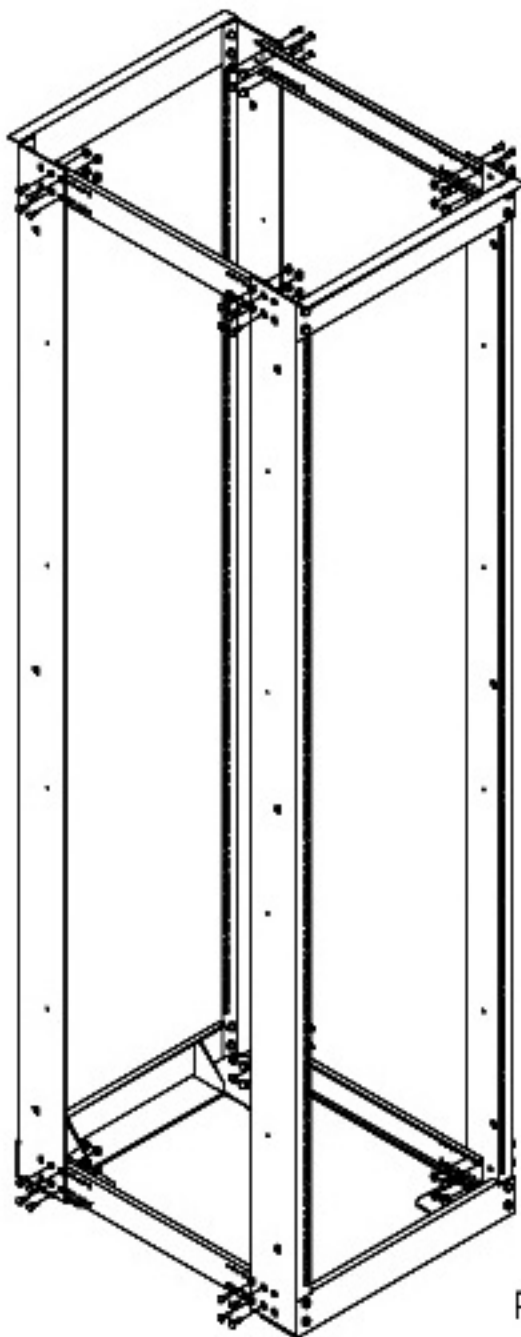

Fig. 3
Attach Adjustable Cross Channel (3) & Frame Assembly to desired depth using Screws (E5) and Nuts (E6). See Fig. 3 & (E3A). (E6)
To adjust depth of 11 rack remove Screws (E5), Nuts (E6) and Cross Channel (3) & Re-install at desired depth. See Fig 3 & 3A